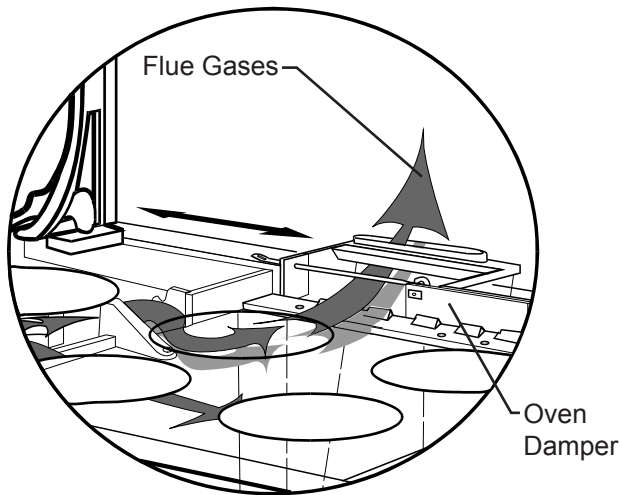

Figure 22
1. Open the oven damper (see Figure 22) and air intake controls (bell dampers). On damp cold days, it may help to open the ash door slightly until a good draw develops in the chimney.